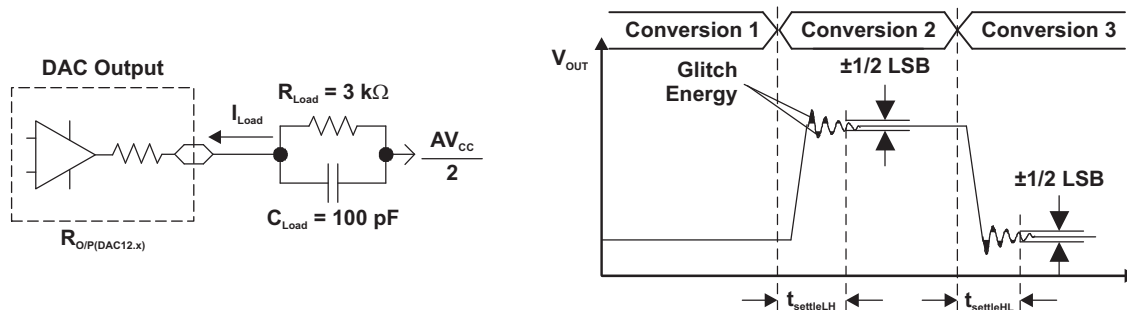
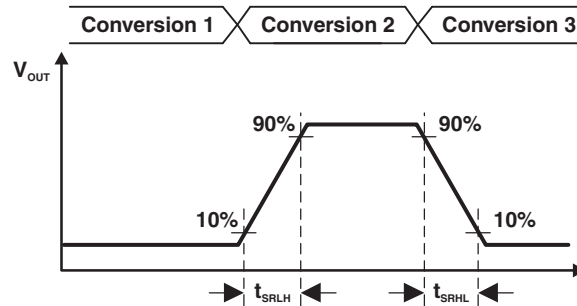

图 5-19. Settling Time and Glitch Energy Testing
图 5-20. Slew Rate Testing
VREF = VCC, DAC12IR = 1 (see 图 5-19 and 图 5-20), over recommended ranges of supply voltage and operating free-air temperature (unless otherwise noted)
- (1) RLoad and CLoad connected to AVSS (not AVCC/2) in 图 5-19.
- (2) Slew rate applies to output voltage steps ≥ 200 mV.